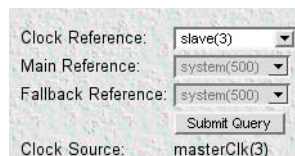

Figure 31. Clock Reference Submit Query button
- Click the **Submit Query** button shown in figure 31.